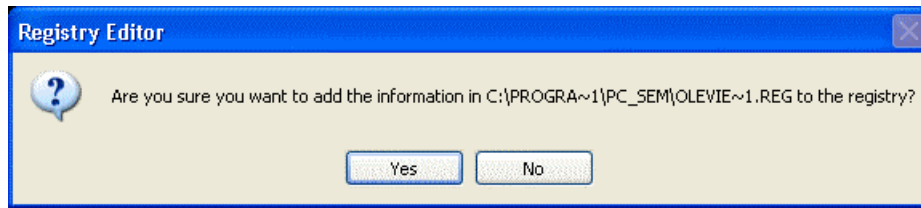

Fig. 6.3-6 Registry Editor Window
6. Click on **Yes** when a window as shown below appears (**Fig. 6.3-6**).